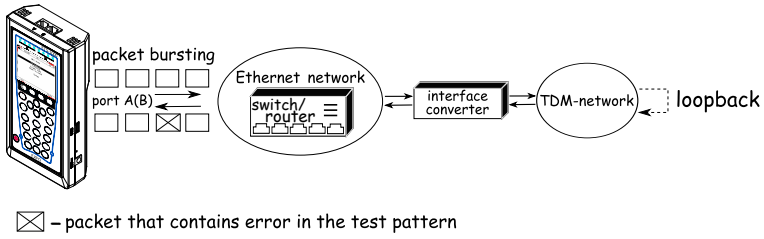

Figure 5.80. Data link/Network layer testing (scheme 1)
- At the **Network layer**, all data is encapsulated into IP packet, and then — into Ethernet-frame thus allowing to transmit test packets through a network with both OSI's second- and third-layer equipment (for example, network switch, network router). Possible connection schemes are shown on fig. 5.80, 5.81, and 5.82.
- At the **Transport layer**, test data is encapsulated into an UDP header, then — into IP header and an Ethernet frame thus allowing to transmit test pattern using transport protocols. Possible connection schemes are shown on fig. 5.80, 5.81, and 5.82.